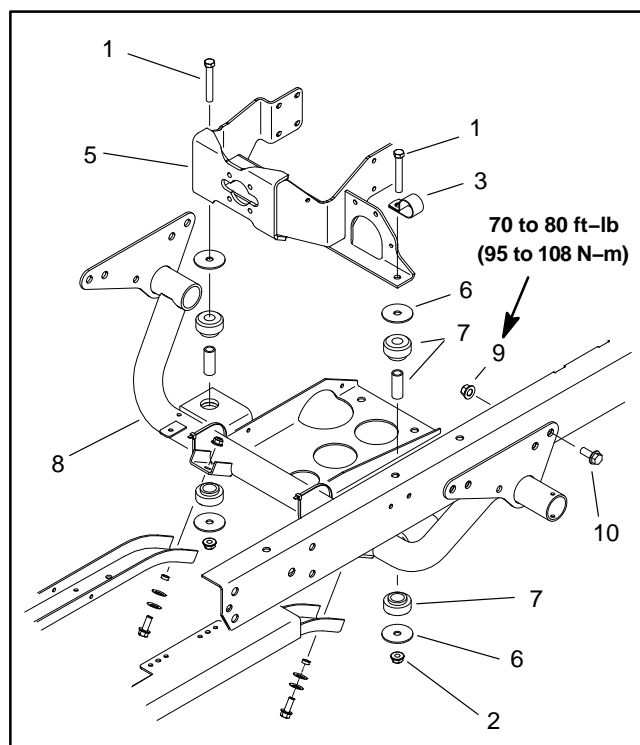

Figure 16
15. Loosen and remove two (2) flange nuts, snubbing washers and cap screws that secure engine mounts to engine support (Fig. 16).
10. Secure engine mount to engine support with two (2) cap screws, snubbing washers and flange nuts (Fig. 16).